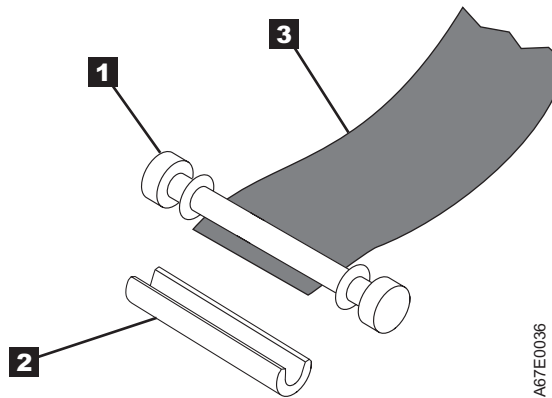

Figure 126. Removing the C-clip from the leader pin. Use your fingers to push the C-clip from the leader pin.
5. On the leader pin ( **1** in Figure 126), locate the open side of the C-clip **2**. The C-clip is a small black part that secures the tape **3** to the pin.